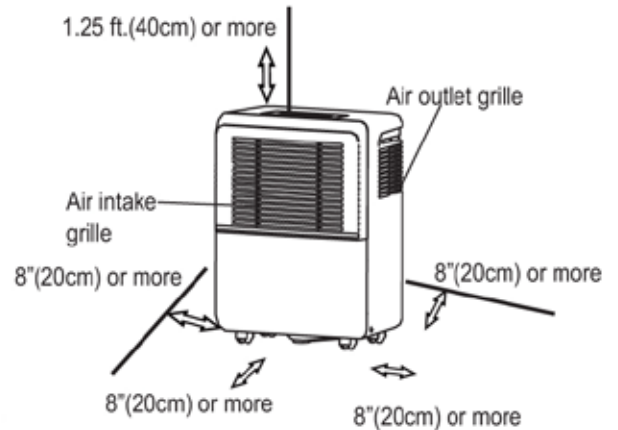

Fig. 5
- Allow at least 8 inches of clearance on all sides of the unit and 15 inches above the unit for good air circulation. (See Fig. 5).